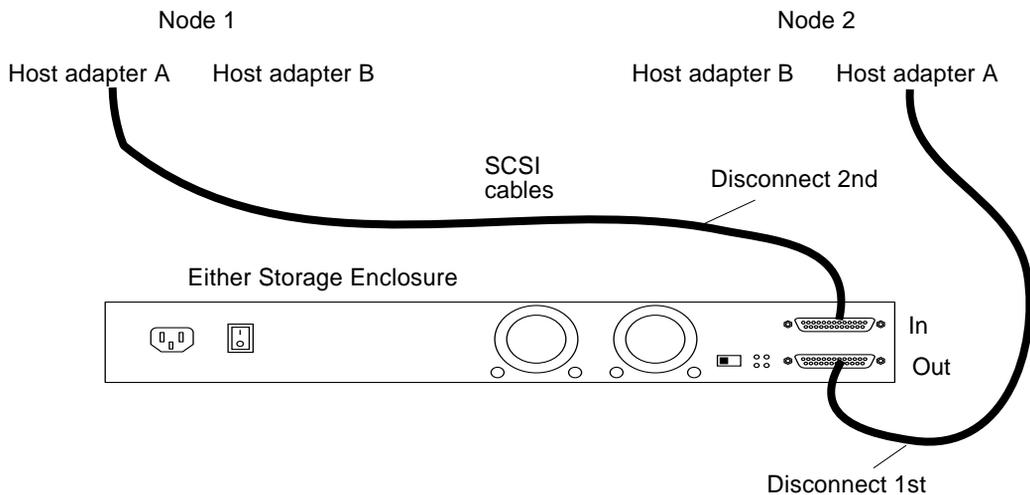

FIGURE 10-7 Disconnecting the SCSI cables
- 3. Disconnect the SCSI cables from the Netra D130/StorEdge S1 enclosures, disconnecting the cable on the SCSI OUT connector first, then the cable on the SCSI IN connector second (see FIGURE 10-7).**
6. **Connect the SCSI cables to the new Netra D130/StorEdge S1 enclosures, reversing the order in which you disconnected them (connect the SCSI IN connector first, then the SCSI OUT connector second). See FIGURE 10-7.**